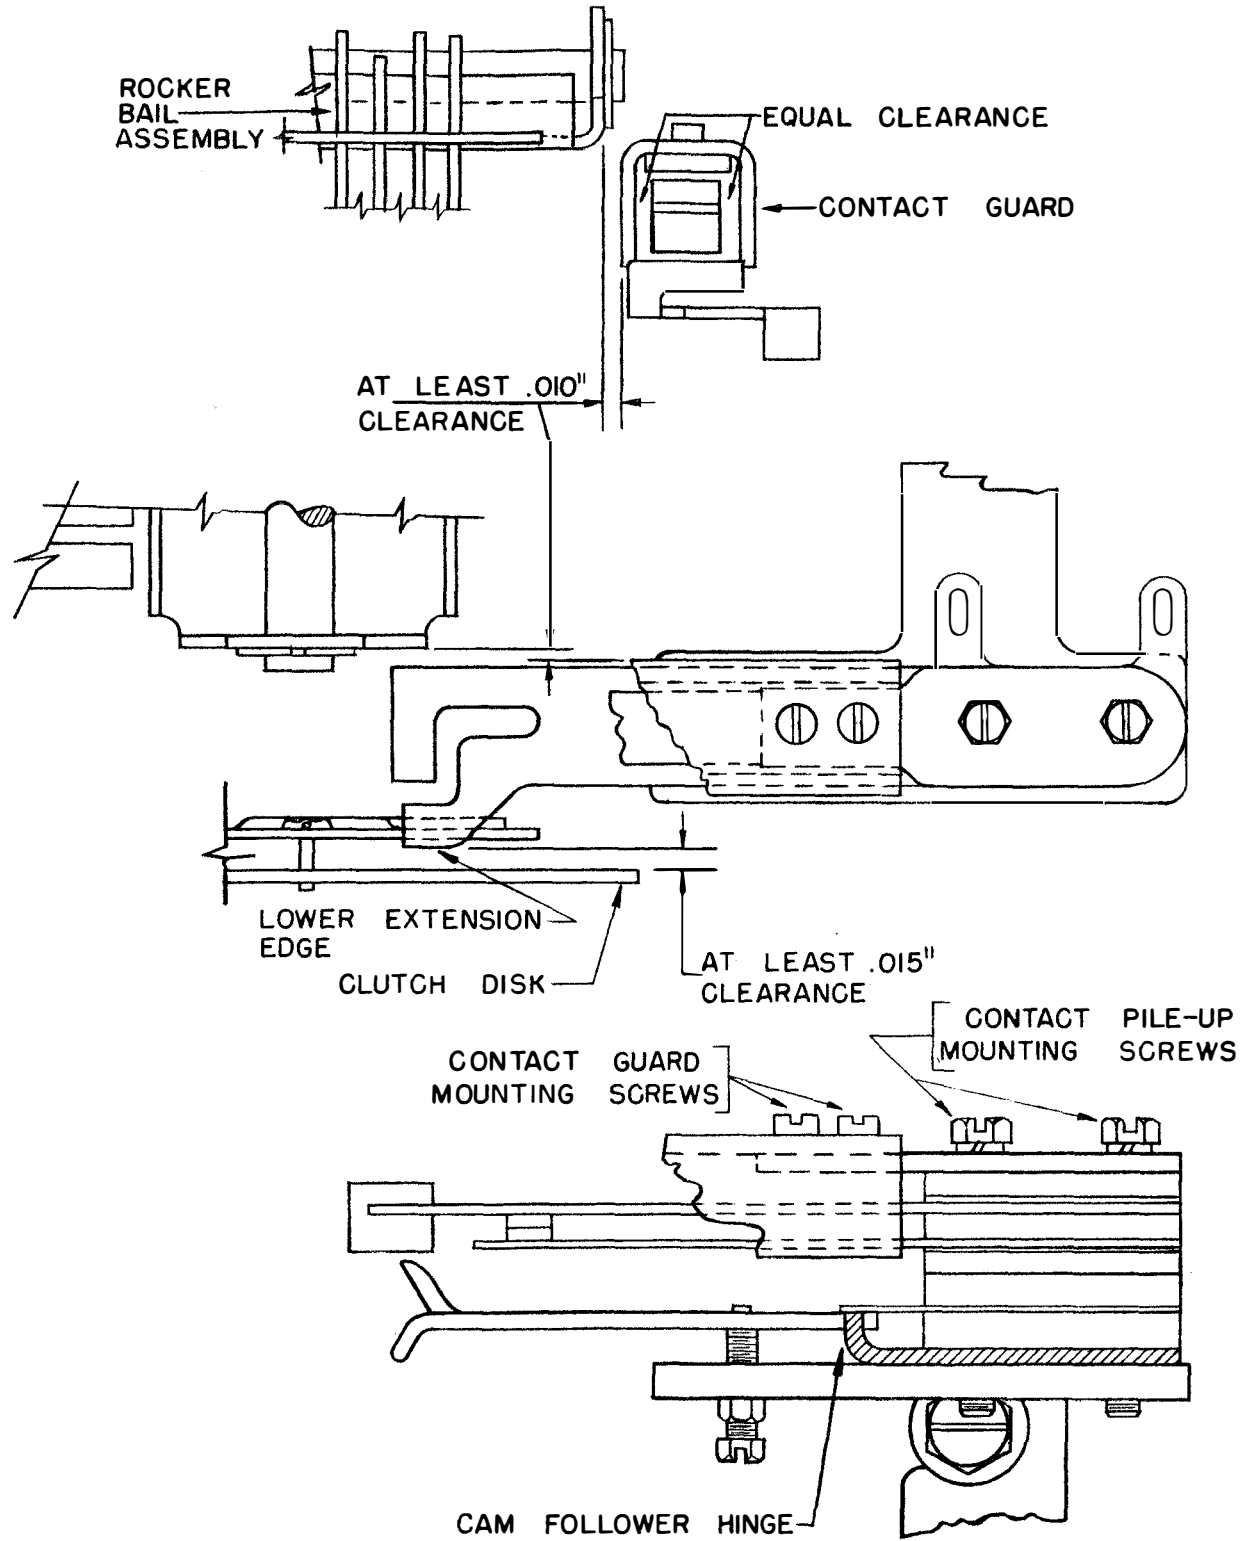

FIGURE 2. PERTAINS TO 164998 MODIFICATION KIT
(7) With equal clearance between the contact springs and the contact guard, there should be at least .010" clearance between the contact guard and the rocker bail assembly. To adjust, loosen (friction tight) the contact guard and contact pile-up mounting screws and position the guard and pile-up to meet the requirements (see Figure 2). Tighten the screws. Check to see that the contact points meet squarely.
\* (9) There should be at least .015" clearance between the lower extension edge of the cam follower arm and the inside surface of the clutch disk. To adjust, loosen (friction tight) the two contact pile-up mounting screws and position the cam follower hinge; tighten the screws (see Figure 2). Recheck Paragraphs (7) and (8).